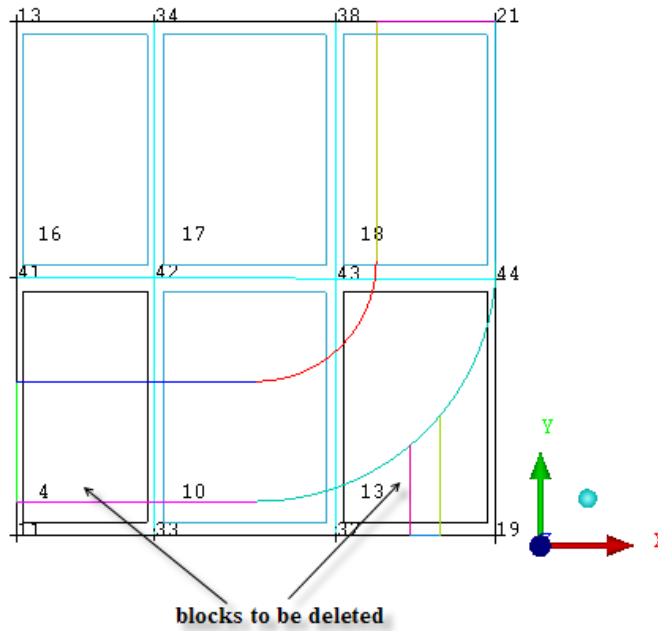

Figure 9: Blocks to be Deleted
- (c) Select the blocks to be deleted as shown in Figure 9 and click the middle-mouse button to accept the selection.